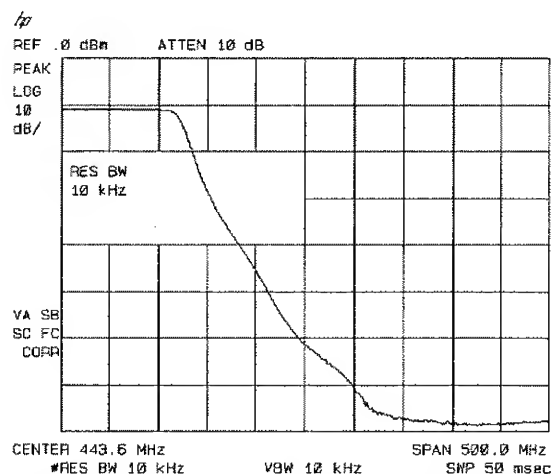

Figure 4-7. Decrease the Resolution Bandwidth to Improve Sensitivity
6. Decrease the resolution bandwidth to increase sensitivity, and narrow the video bandwidth to smooth the noise. In Figure 4-7, the resolution bandwidth has been decreased to 10 kHz.